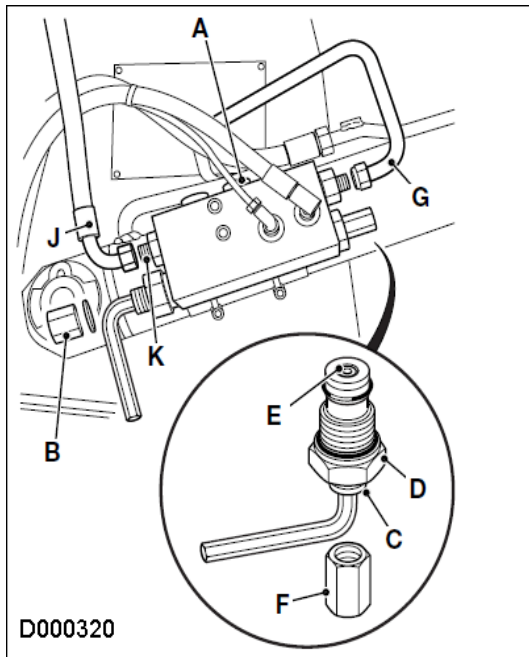

Fig 17.
- 6 Refit the priority valve spring **11** and adaptor **9** and torque tighten ⇒ Fig 17. (□ H-17).